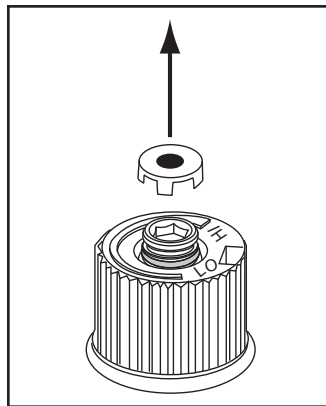

Figure 7.2
- Remove the black protection cap by hand. (Figure 7.2)